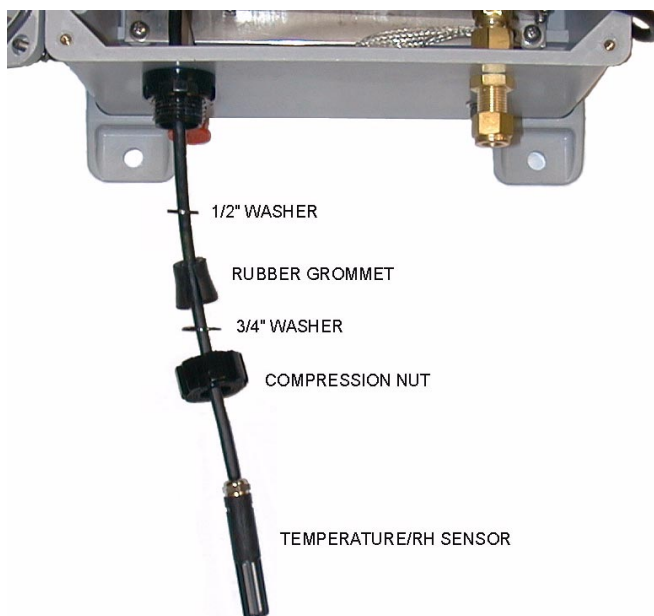

Figure 10-29 Payload Stuffing Tube
9. Unscrew the compression nut from the stuffing tube where the T/RH cable enters the GSOS enclosure (see Figure 10-29).
16. Feed the T/RH sensor through the stuffing tube (and its washers and grommet) as shown in Figure 10-29. The T/RH probe body is too large to fit through the stuffing tube washers and grommet. Make diagonal cuts in the washers and grommet with diagonal cutters or a utility knife.